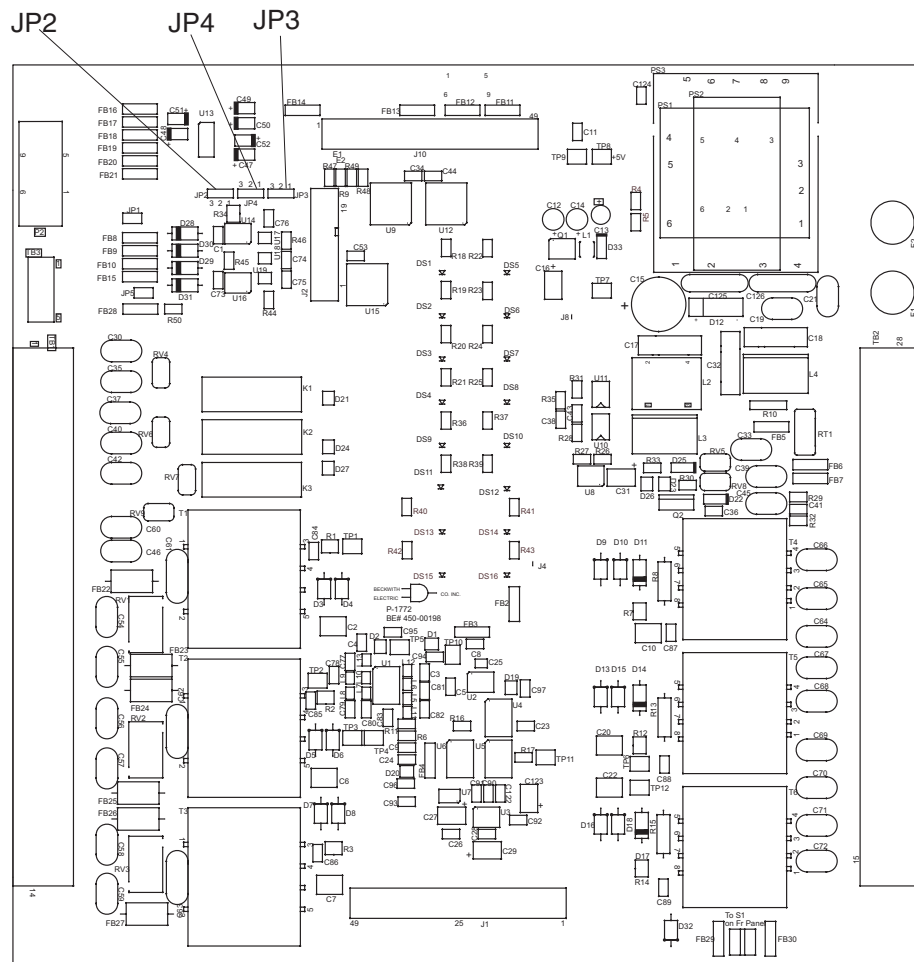
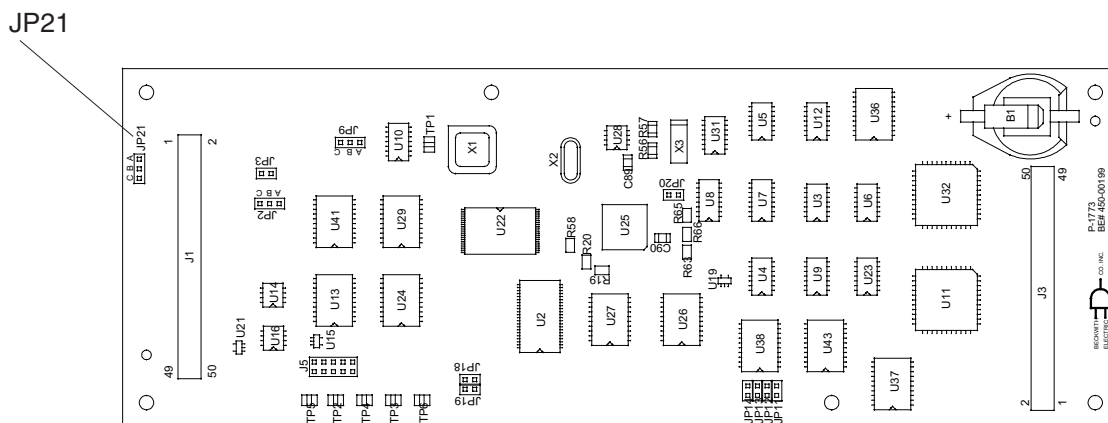

Figure 2-16 M-3410 IO Board
Figure 2-17 M-3410 CPU Board
See Figure 2-16, M-3410 I/O Board, or Figure 2-17, M-3410 CPU Board for Jumper locations.
5. JP2, JP3, and JP4 are now accessible. See Figure 2-16, M-3410 I/O board for locations.
8. JP21 is now accessible. See Figure 2-17, M-3410 CPU Board.